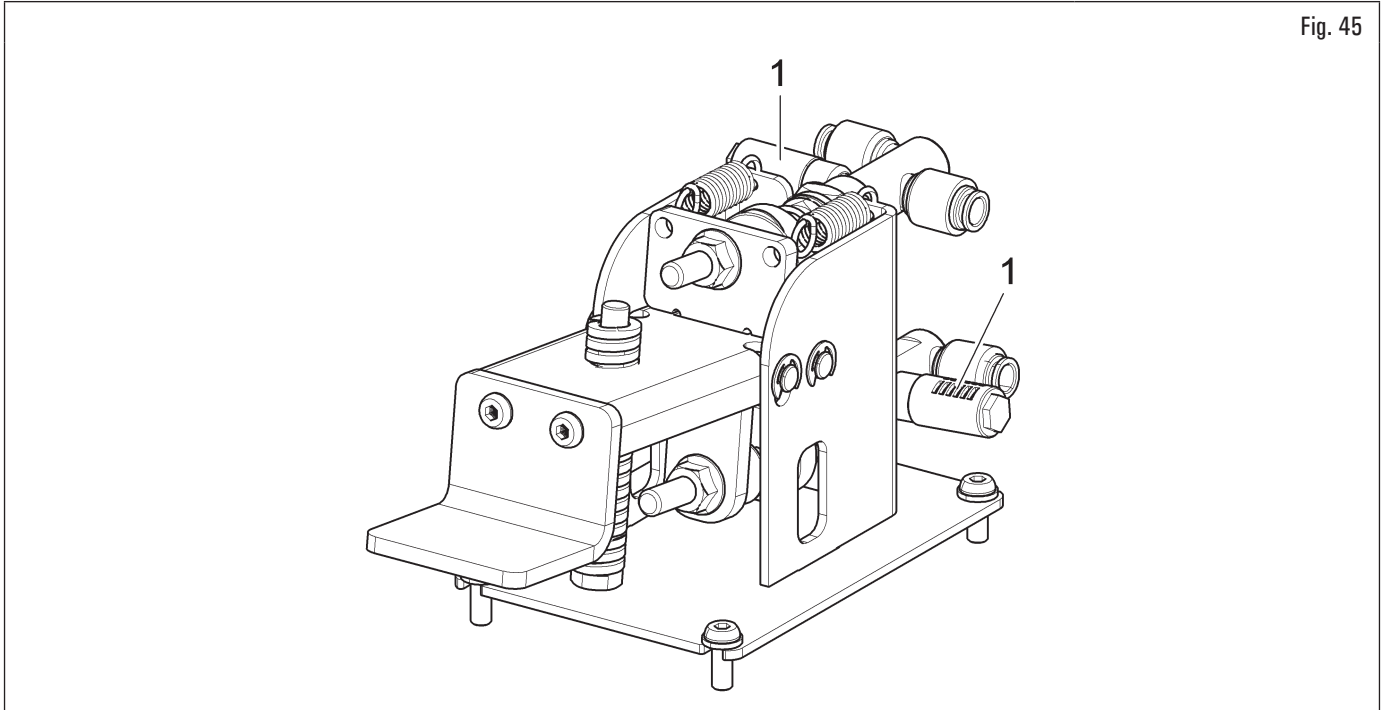

Fig. 45
2. undo the silencers (Fig. 45 ref. 1) located on the inflation pedal servo distributors;